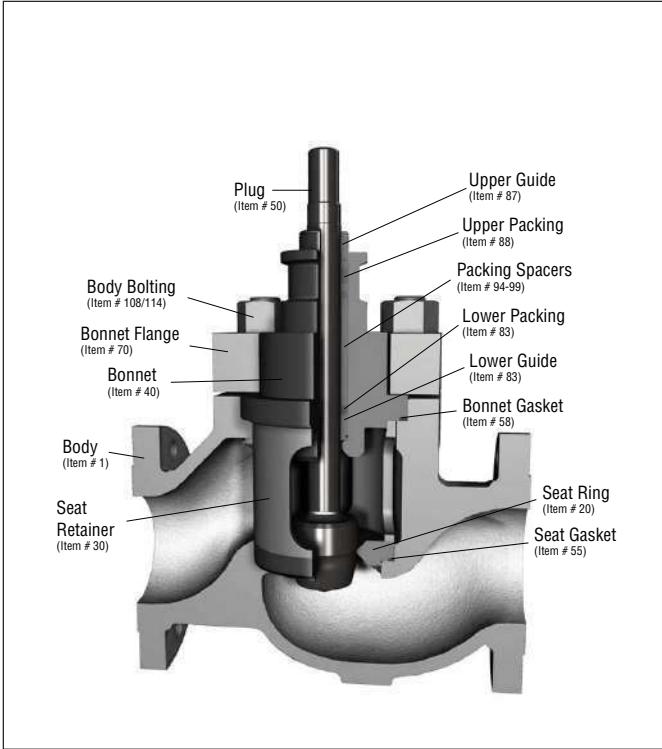

Figure 1: Mark One Control Valve Body Assembly
- 6.1. To disassemble the valve body, refer to Figures 1, 2 and 3 then proceed as follows: